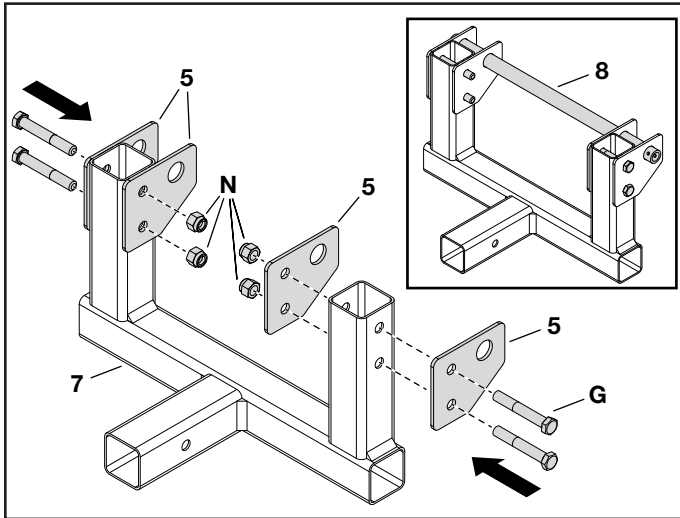

FIGURE 3
STEP 3: (SEE FIGURE 3)
- Attach four pivot brackets (5) to the blade mount assembly (7) using four hex bolts (G) and Nylock hex nuts (N).
- To help align the pivot brackets (5), temporarily insert the pivot shaft (8) through the holes in the pivot brackets.
- Remove the pivot shaft (8) once the pivot brackets (5) are securely attached to the blade mount assembly (7).